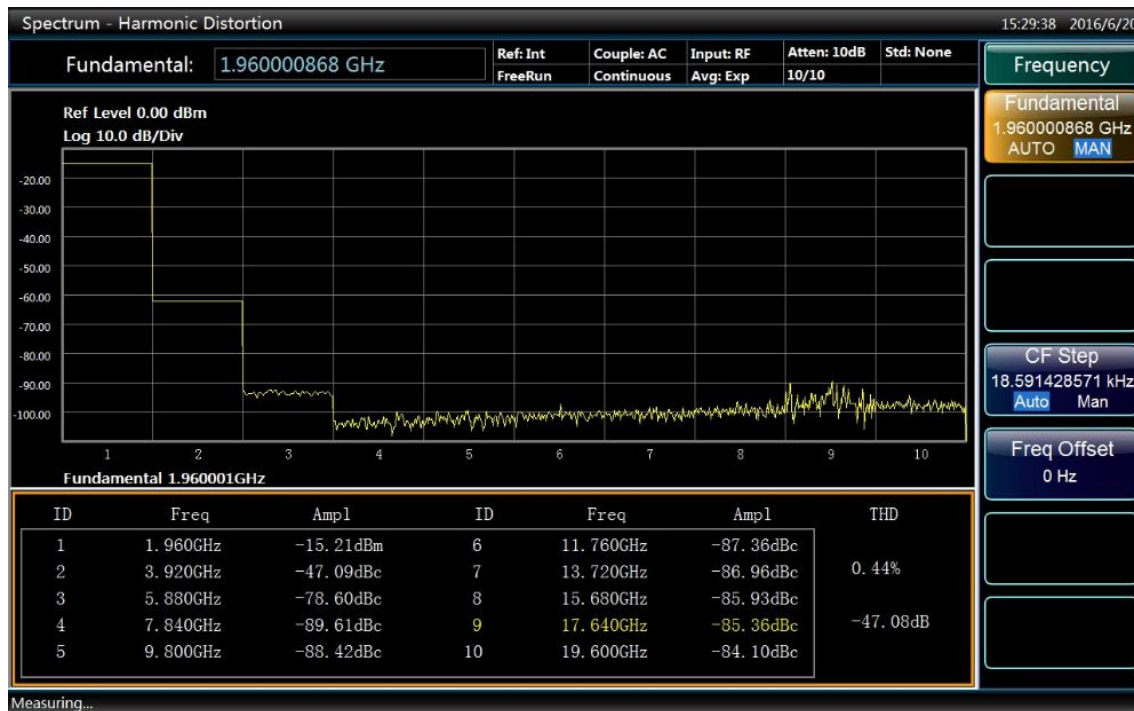

Fig. 4.77 Results of Harmonic Distortion Measurements
- The results of harmonic distortion measurements are shown in Fig. 4.77. Text window displays the absolute power value of the fundamental wave and the relative value of harmonic to fundamental frequency, and gives the total harmonic distortion value.